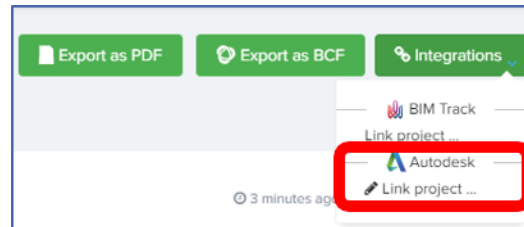

FIGURE 19: SELECT AUTODESK PROJECT
- Select **Link Project** under Autodesk logo (Figure 19)